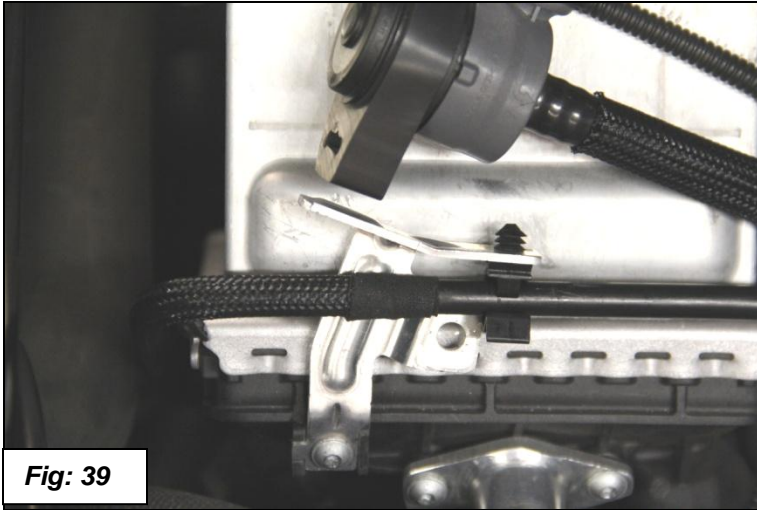

Fig: 39
27. Steps 27 & 28 are the only steps that are unique to only the driver side air box. Remove bracket from figures 39 and 40 as shown. Use a T15 Torx for the single fillister head screw.